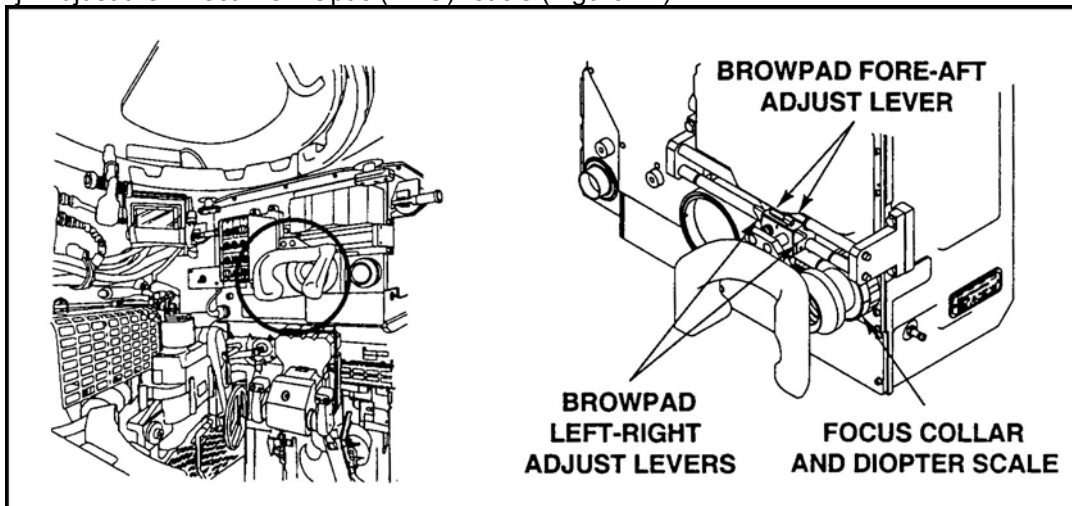

Figure 11. DVO-focus collar.
- (1) Rotate the biocular display knob to symbology brightness (SYM BRT).
- (2) Move the adjust switch up and down until the symbology has sufficient brightness.
- (3) Observe the symbology.
- j. Adjust the Direct View Optic (DVO) reticle (Figure 11).